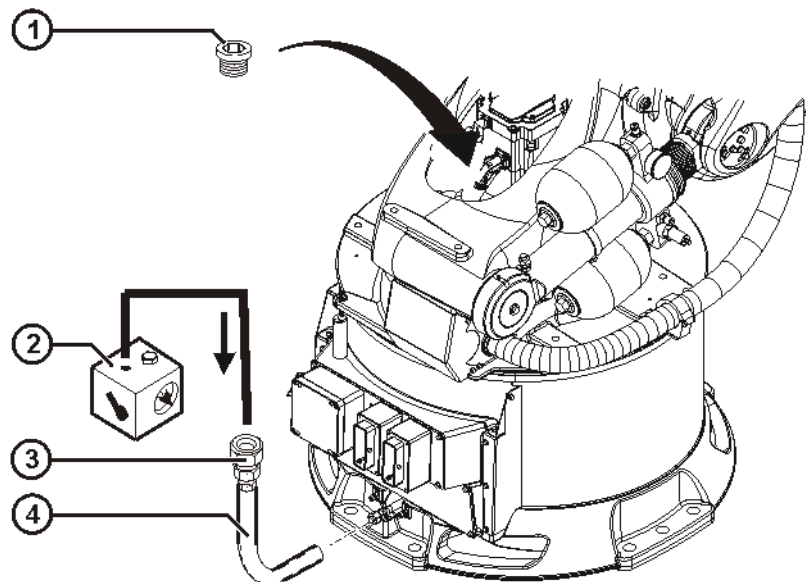

Fig. 9-21: Filling with oil on A1
1. Pull the oil drain hose upwards (>>> Fig. 9-21 ).